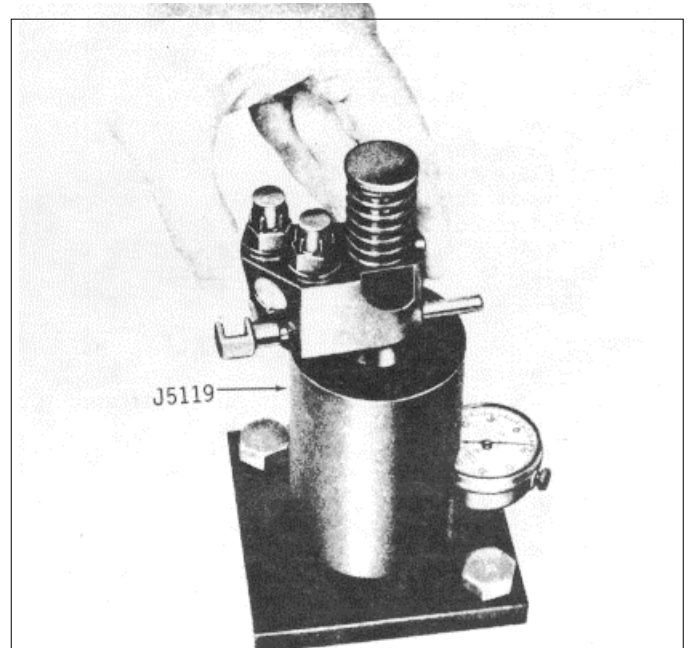

Fig. 42
- (1) Place the injector in the concentricity gauge J 5119 as shown in Fig. 42 and adjust the dial indicator to zero.
- (2) Rotate the injector 3600 and note the total runout as indicated on the dial.
- (3) If the total runout exceeds .008", remove the injector from the gauge. Loosen the injector nut, center the spray tip and tighten the nut to 75-85 ft-lbs (102-115 Nm) torque. Recheck the spray tip concentricity. If, after several attempts, the spray tip cannot be positioned satisfactorily, replace the injector nut.